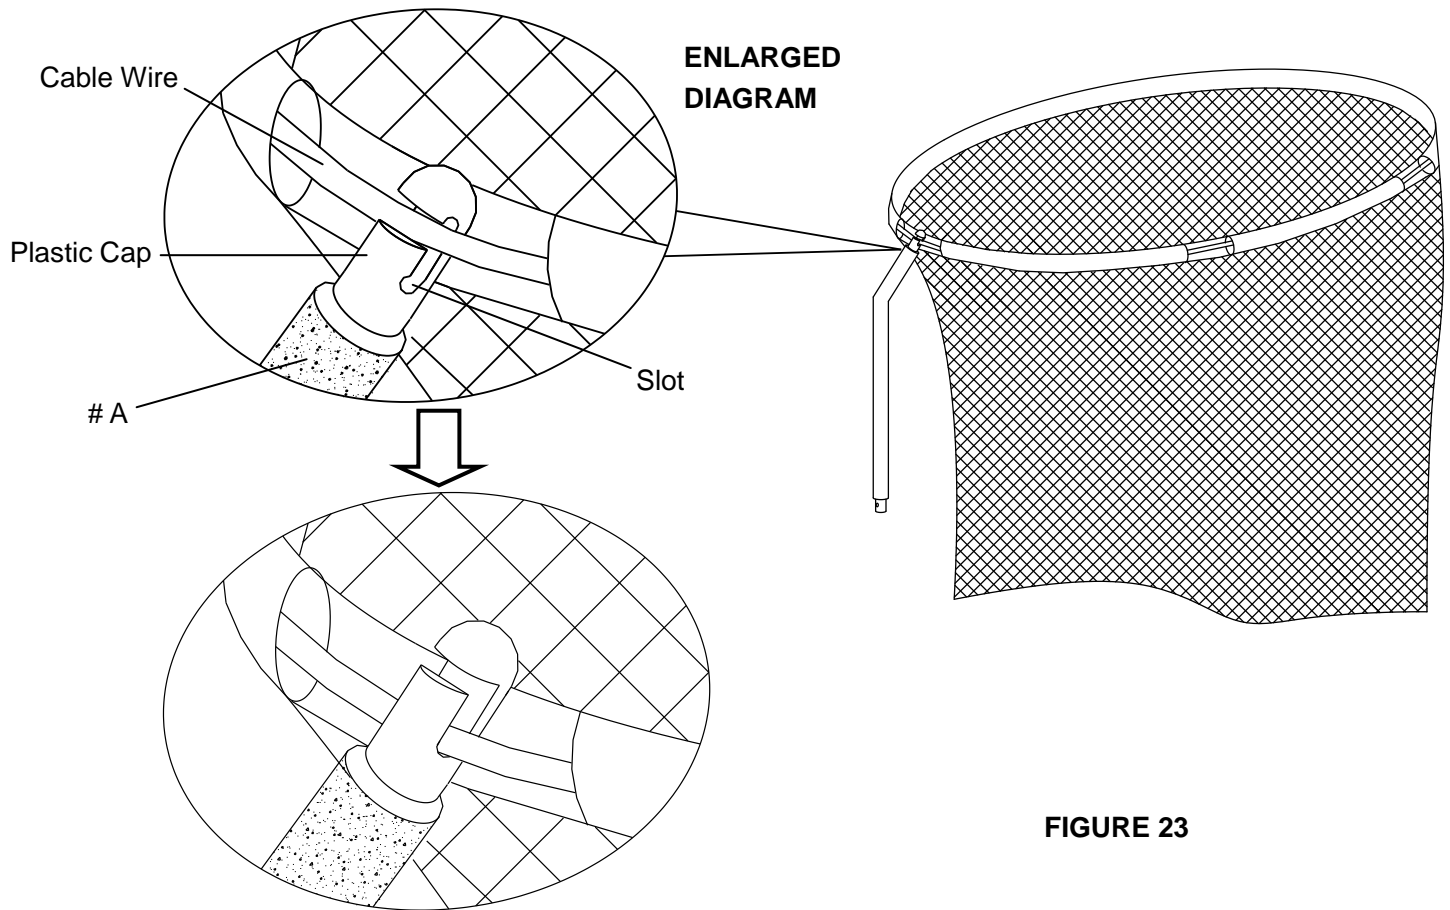
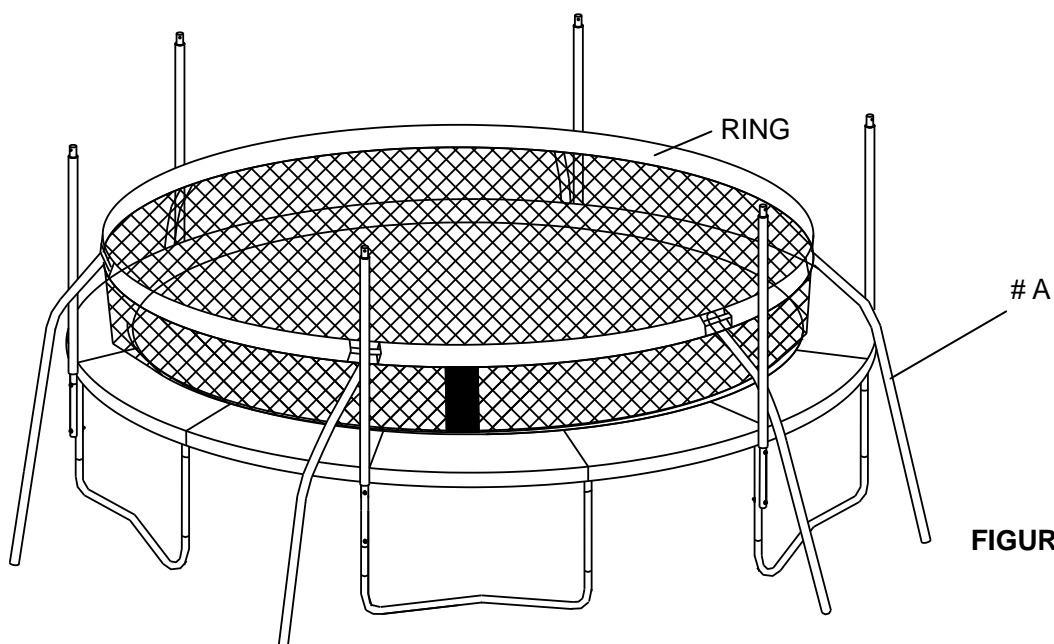

FIGURE 23
FIGURE 24
G. Attach Upper Frame Tube with Foam (# A) with the Plastic Cap (installed in STEP 6 PART B above) to the Cable Wire as shown in FIGURE 23. Make sure that the Cable Wire fits into the slot properly. Repeat in the same manner for all six frame tubes. The final result should look like FIGURE 24 when completed.
NOTE: Please place the door in the middle of one Leg Support as shown in FIGURE 24.